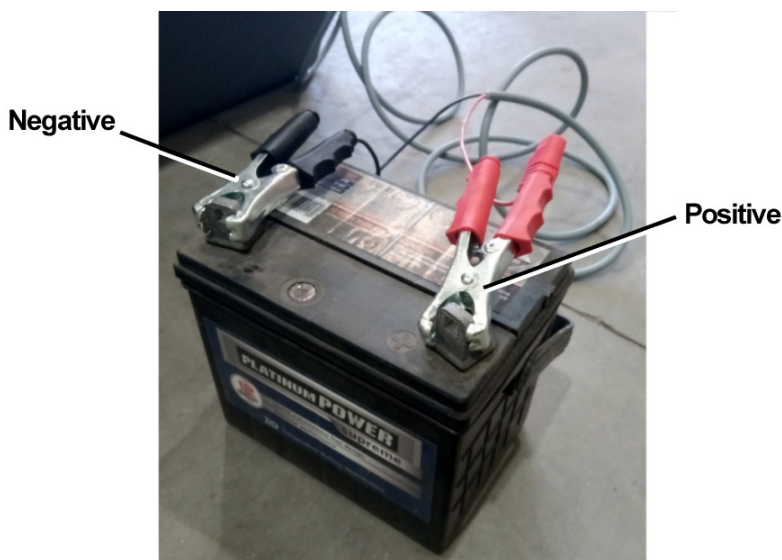

Figure 3 – Battery Connection
- If not hardwired to the vehicle, uncoil the BlueMission's 4m power cable and connect the alligator clips to a battery (refer to Figure 3) or power supply in the following order: